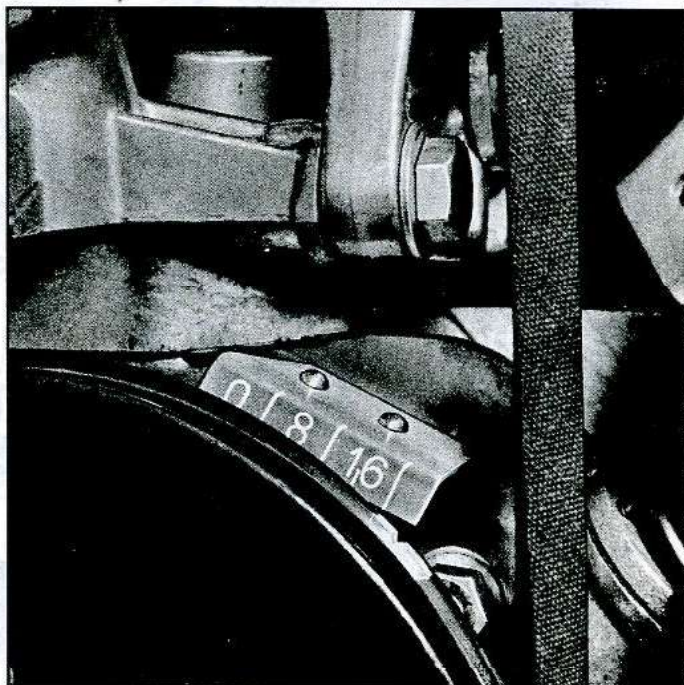

Fig. 134—Ignition Timing
3. Aim timing light at timing tab (fig. 134) above crankshaft pulley and adjust timing to 24° advance by turning distributor the same manner as on regular Corvair engine.